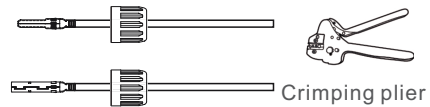

Figure 5.13 Crimp the contact pin to the wire
3. Crimp the contact pin to the wire using a proper wire crimper. (see Figure 5.13)